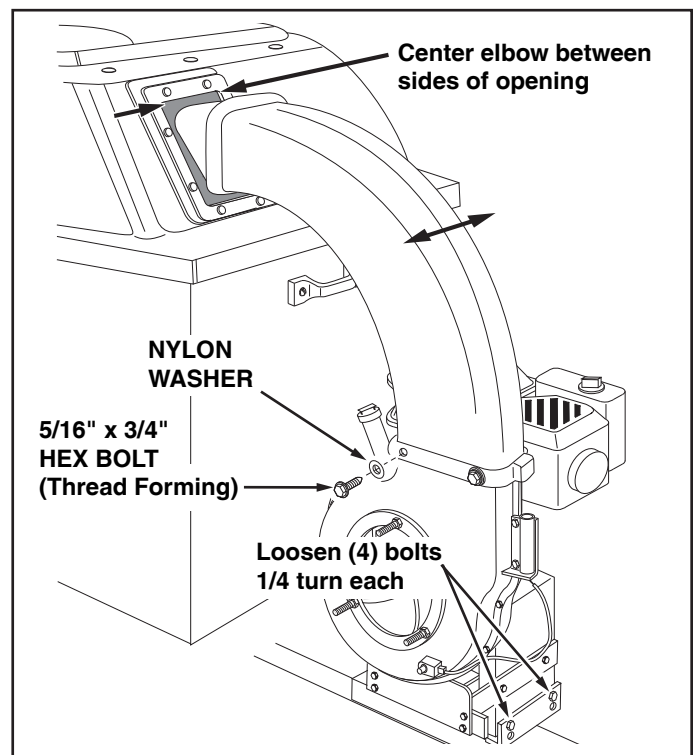

FIGURE 18
30. Assemble the elbow to the impeller housing using four 5/16" x 3/4" self tapping hex bolts and four nylon washers. Push while turning to help start the bolts into the unthreaded holes. **Tighten**. See figure 18.